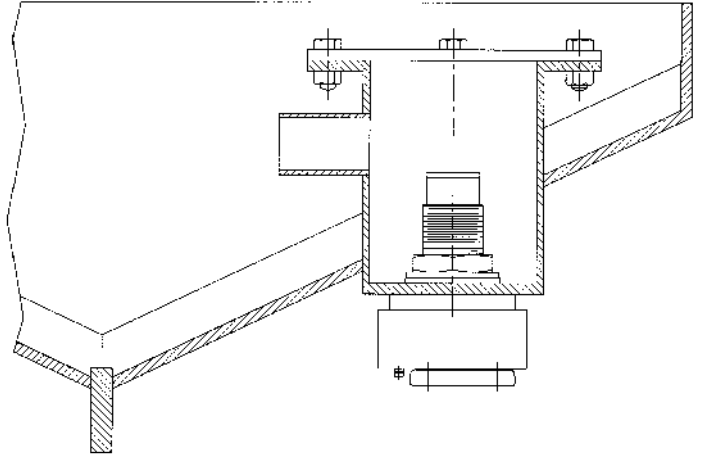

FIG. 5 Canted Installation with Cofferdam.
- 1.5.2 The GRIDCOOLER unit can be canted from the hull (sideways) to vertically align the nozzles. This can reduce interference problems with stringers on cofferdam installations. (See Figure 5)